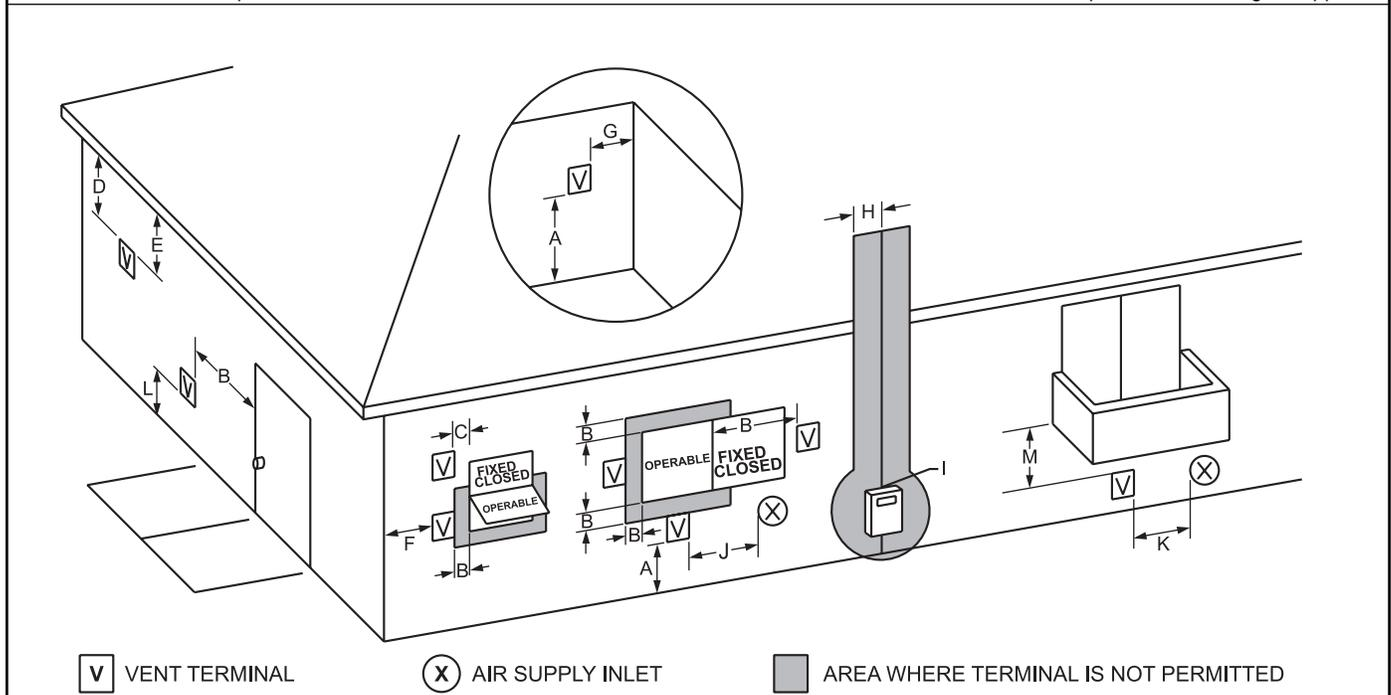

Figure 4. Combustion Air and Vent Through Side Wall.
1. **Figure 4** shows the requirements for mechanical vent terminal clearances for the U.S. and Canada.
4. If the Fire Coil 85 is side-wall vented to the same wall, locate the vent terminal at least 3 feet (0.9m) horizontally from the combustion air terminal, and locate the vent terminal at least 1 foot (0.3m) above the combustion air terminal (see **Figure 4**).